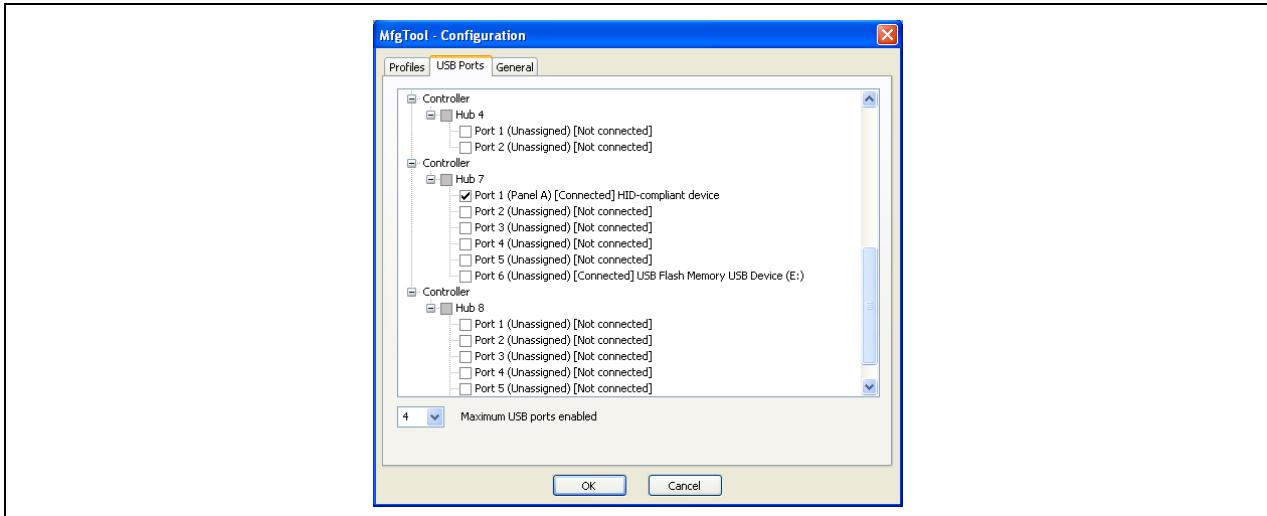

Figure 37 MfgTool USB Ports Dialog
- 2 Select the 'USB Ports' tab and select a Hub and Port to use as shown in Figure 37. Refer to paragraph 9.4.1 for detailed instructions on how to set up the USB ports.
- 3 Select a Port number as shown in Figure 37.
Select the physical ports that are to be used during the manufacturing process. When a port is selected, the name of the associated (assigned) Panel will appear next to the port node. The operation panels (A, B, C, and D) in the main application window correspond to the four physically assigned ports shown in Figure 37.